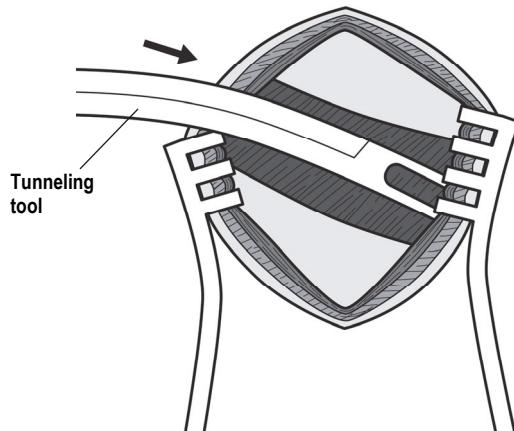

Figure 22: Advancing Tunneling Tool
8. Insert the tunneling tool and advance laterally into the plane defined by the anterior surface of the intercostal muscle. See Figure 22.